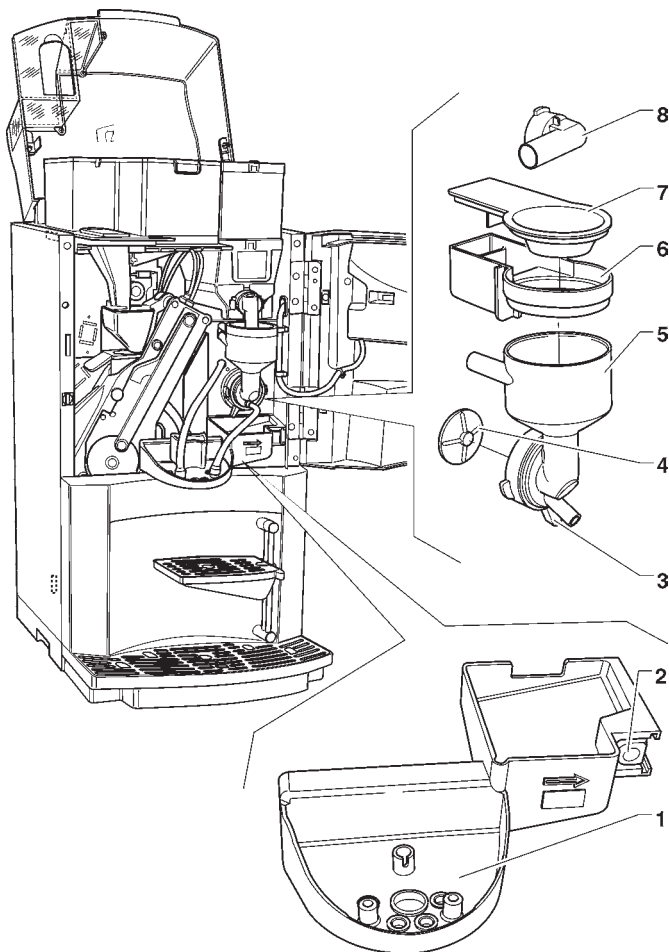

Fig. 9
- remove the powder and the water funnels, the feeders, the powder deposit drawers and the mixer wheels from the mixers (see Fig. 9);
Every time coffee is refilled, or at least once a week, any powder residue should be removed from the external parts of the coffee unit, particularly from the coffee funnel area (see Fig. 9), using a brush or a small vacuum cleaner. No wet cloth can be used for cleaning the shelves, unless it is thoroughly rung out.